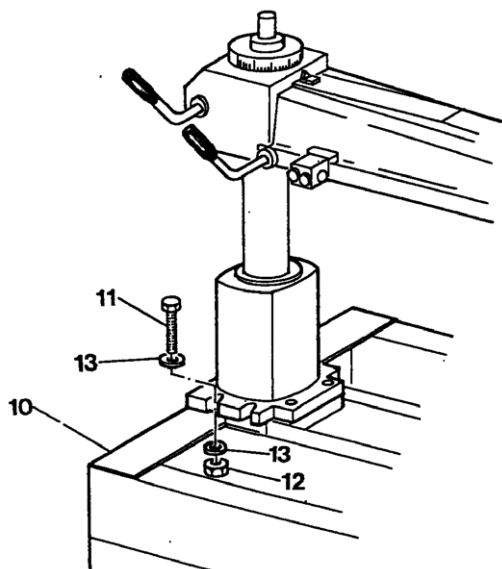

Fig. 2
2. Connect the four spacer bars (6) to the legs by means of the screws (7) and relative washers (8) and nuts (9).
3. Position and fix the group to the bench (10): BASIS COLUMN ARM by using the screws (11) with the relative nuts (12) and washers (13) (see fig. 2)